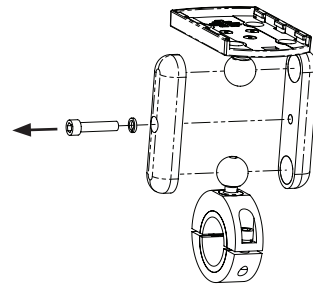

Figure 1
2. Using the 5/32" Hex Key, remove the Positioning Screw and Lock Washer to disassemble the Mount as shown in Figure 1.